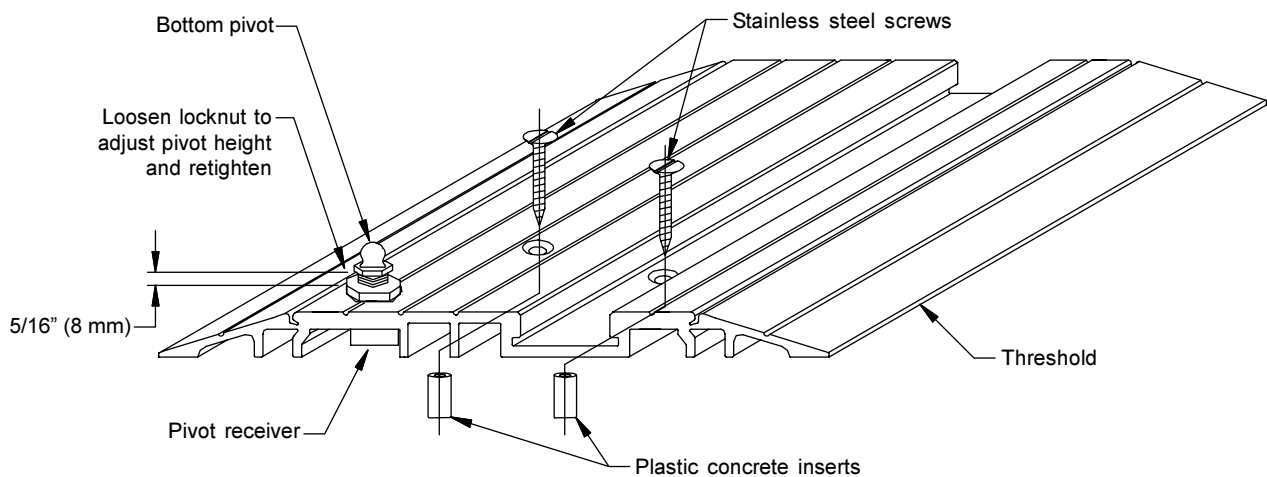

Figure 11. Bottom Panel Pivot Attachment
3. Thread panel pivot post (from blister pack) into pivot receiver in threshold and adjust to correct height (**Figure 11**). If threshold filler is not installed, it can be force fit using a one-foot wood block and rubber mallet.